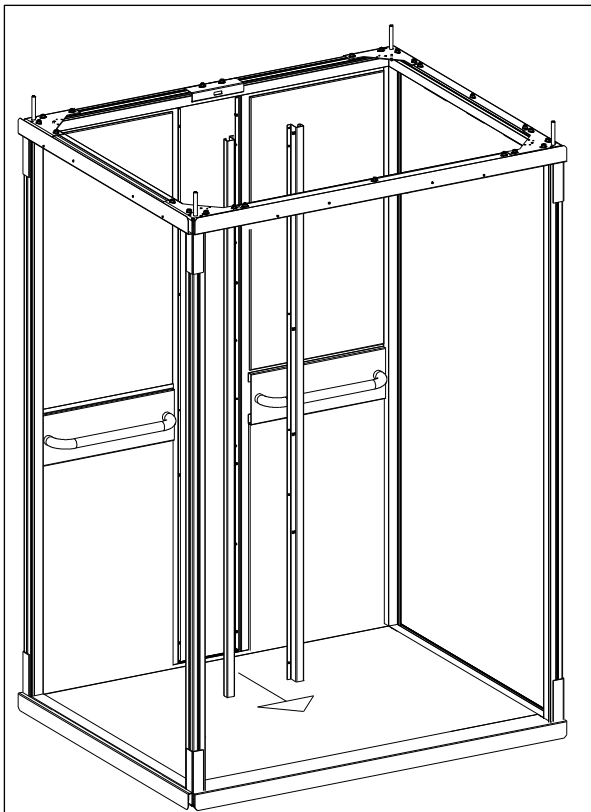

Figure 11 - COP trim being removed
- Once removed the COP trim can be taken out (*Figure 11 - COP trim being removed*). Fixings on the trim's can easily be accessed.